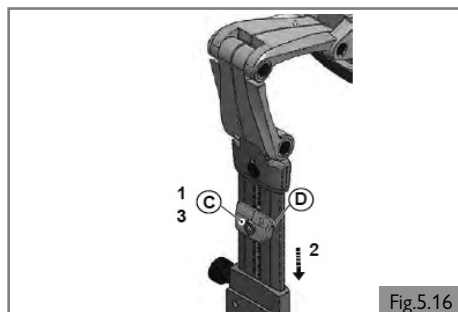

Fig.5.16
**Fixed height setting (Fig. 5.16)**
1. Loosen (C) by one turn.
2. Slide (D) as far down as possible.
3. Tighten (C). See section 8 for specified torque values.